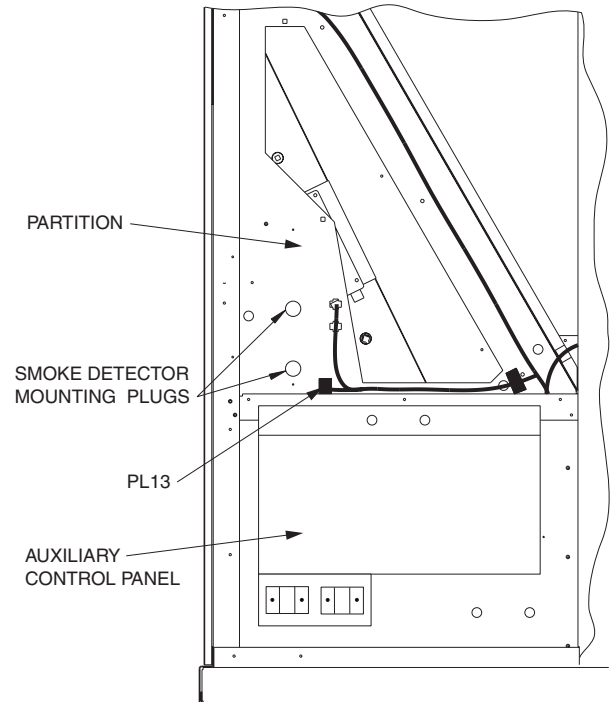

Fig. 2 — Smoke Detector Mounting Location for 48/50A020-060
2. Find the 2 plugs located in the partition above the control box, remove and discard. See Fig. 2.